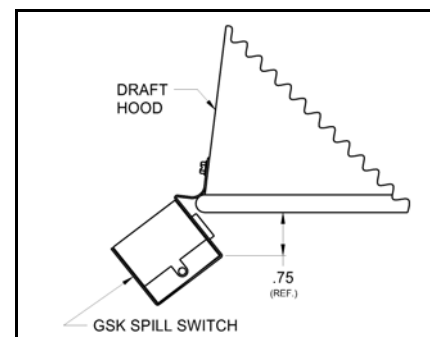

Figure 6
2. The switch should not contact the metal. They should be mounted at least 3/4 inch below the hood opening. (See Figure 6) Mount with supplied sheet metal screw.